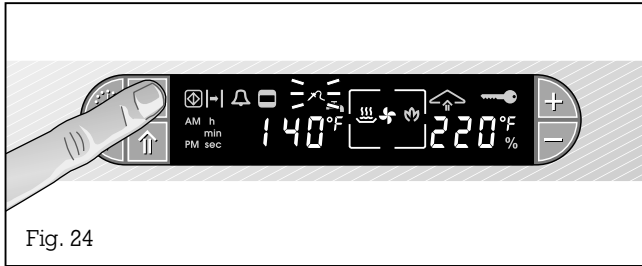

Fig. 24
- Press the ^ (Core temperature sensor) key twice. The ^ (Core temperature sensor) symbol flashes and the suggested value of 60°C / 140°F can be seen on the display (Fig. 24).